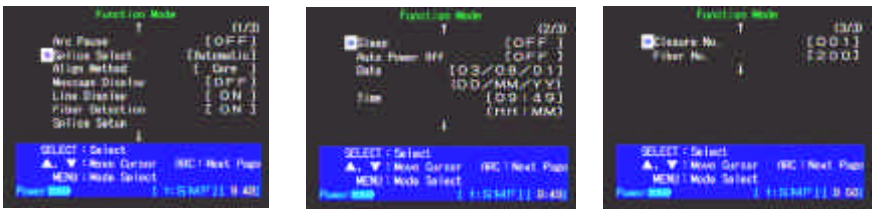

Figure 35. Function Mode Screens
1. Referring to Figure 35, enter the FUNCTION MODE menu screen.